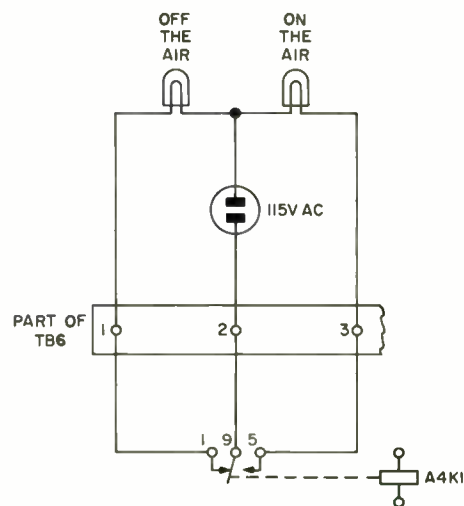

Figure 2-6. ON/OFF THE AIR Lamp, Simplified Schematic
- d. Refer to figure 2-6. Connect the ON/OFF THE AIR lamps as indicated in table 2-1.